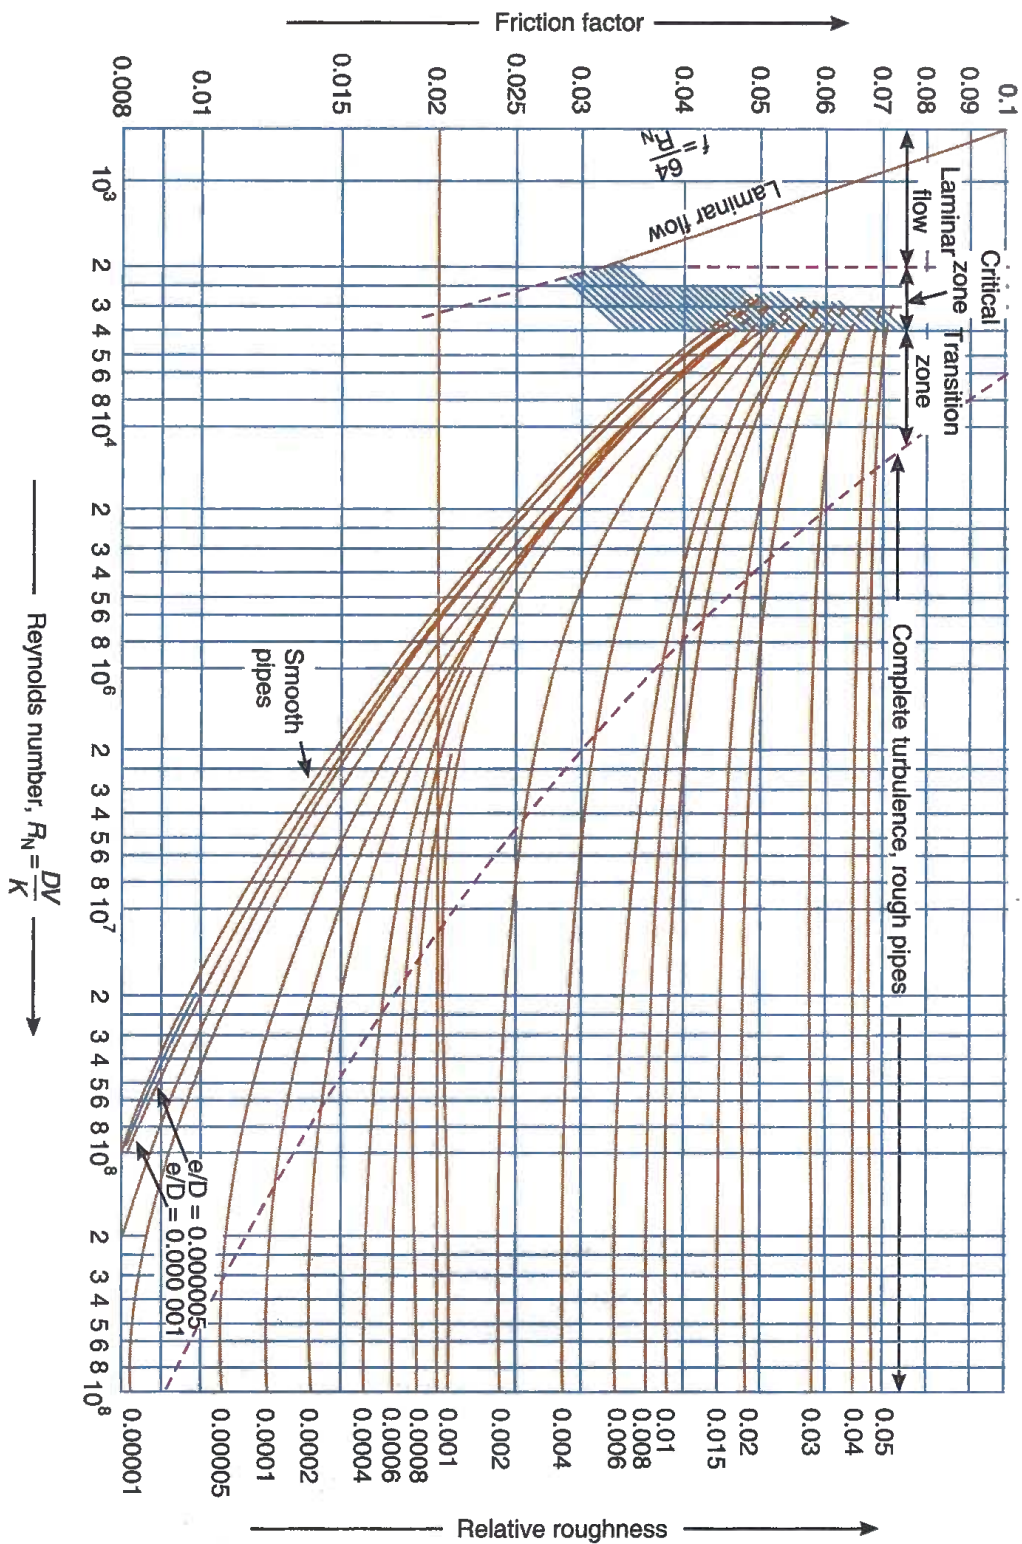

Fig. 20.5. Moody chart showing friction factors for fluid flow in circular pipes or ducts.
The values of friction factor ( $f$ ) for different Reynold numbers ( $R_N$ ) and different roughness factors ( $e/D$ ) may be read directly from the Moody chart as shown in Fig. 20.5.
It may be noted that the values given in Fig. 20.5 are independent of the fluid and apply equally well to water, air or other gases when they are evaluated in terms of Reynold number.
**Note :** When the friction factor ' $f$ ' is obtained from the Moody chart as shown in Fig. 20.5, then the pressure loss due to friction in a circular duct of diameter ' $D$ ' is given by
From the Moody chart as shown in Fig. 20.5, we find that corresponding to  $R_N = 210\,165$  and  $e/D = 0.000\,375$ , the friction factor,